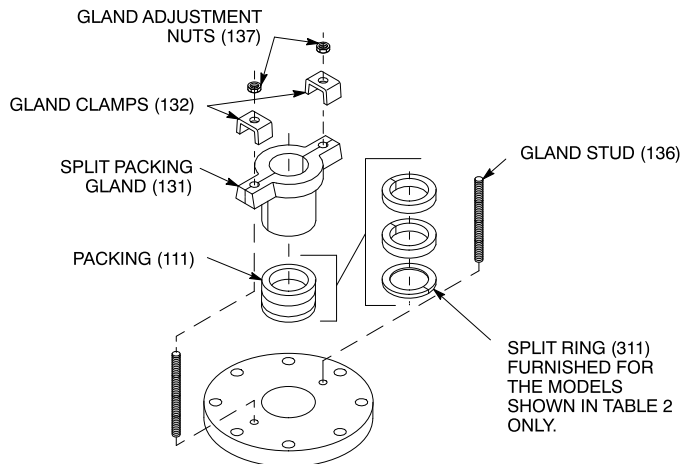

FIGURE 2 – ALTERNATE LOW PRESSURE CONSTRUCTION
2.7 Low Pressure Stuffing Box (see Figure 2)